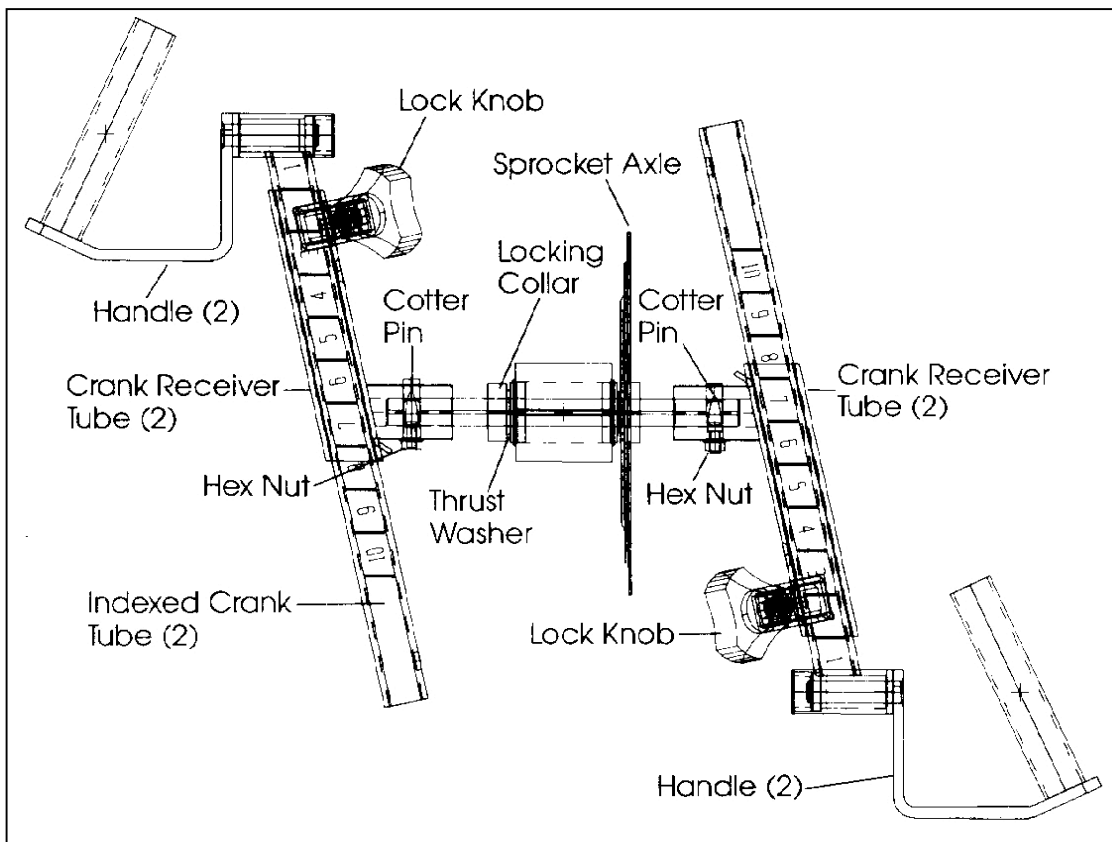

Figure 3: The UBC crank assembly.
1. Remove the arm cranks (Figure 3 in Service Procedures) so the covers can be removed. To do this, remove the hex nut at the hub of each crank, drive the cotter pin through and discard. Replacement part number for the cotter pin is #C08602. Do not re-use cotter pin.
2. Remove both arm cranks (see Figure 3). To do this, remove the hex nuts at the hub of each crank, and drive tapered pin through and discard. Replacement tapered pin is C08602. Do not reuse tapered pin.